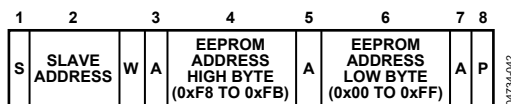

Figure 31. Setting an EEPROM Address
- To set up a 2-byte EEPROM address for a subsequent read, write, block read, block write, or page erase. In this case, the command byte is the high byte of EEPROM Address 0xF8 to EEPROM Address 0xFB. The only data byte is the low byte of the EEPROM address, as shown in Figure 31.